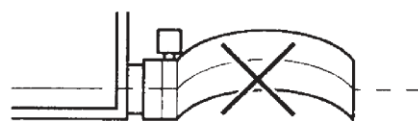
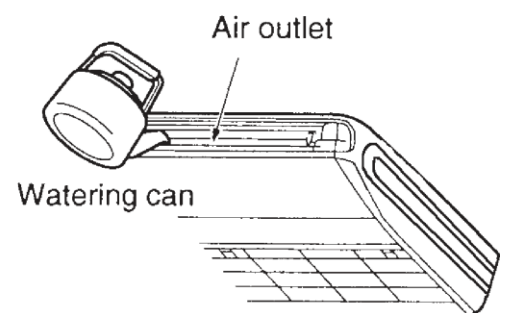

Fig.4
Fig.5
- No folding of drain hose inside the indoor unit.(Refer to Fig.4)
(2) Confirm that smooth drainage is achieved after the piping work.
- Pour 600 cc of water into the drain pan from the air outlet for confirming drainage.(Refer to Fig.5)